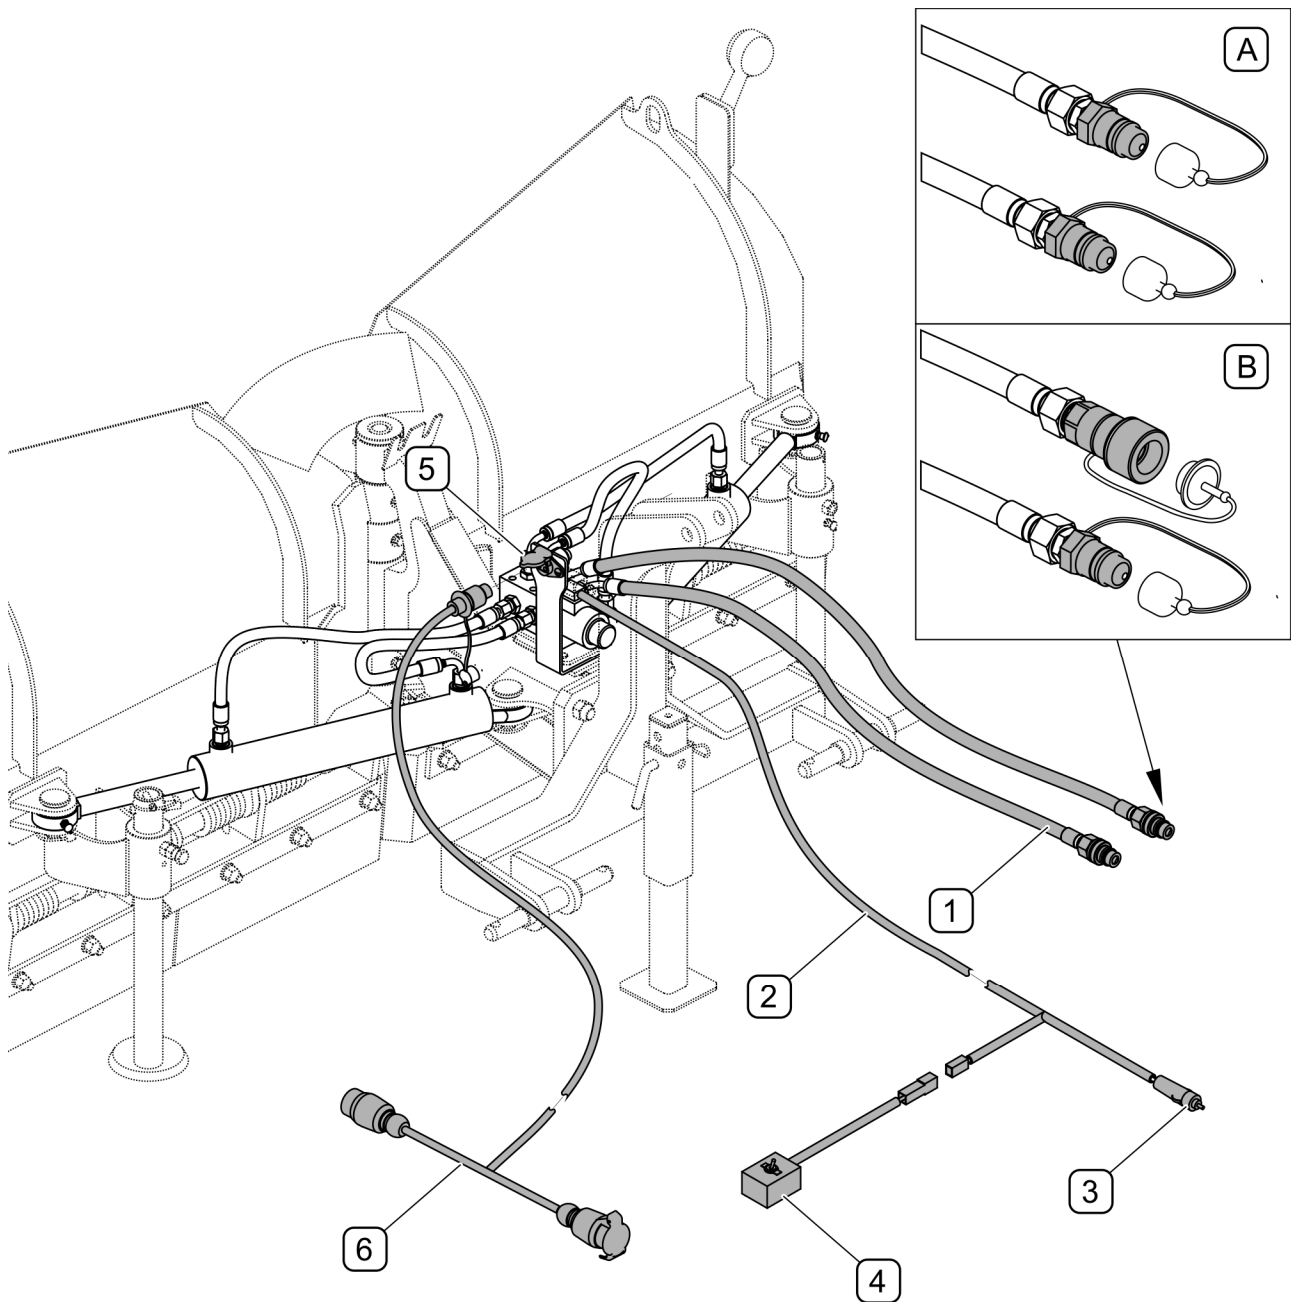

FIGURE 4.6 Connect the hydraulic system
The hydraulic lines (1) of the plough control (FIGURE 4.6) should be connected to the carrying vehicle's external hydraulic sockets. Depending on the version of the hydraulic system, the lines can be terminated with (A) MALE-MALE or (B) MALE- FEMALE type connectors. Arrange the hydraulic lines without bends or twists so that they cannot be damaged while the machine is in use.
connect the switch (4) to the line (2) and place it in the operator's cabin in an accessible place (FIGURE 4.6).